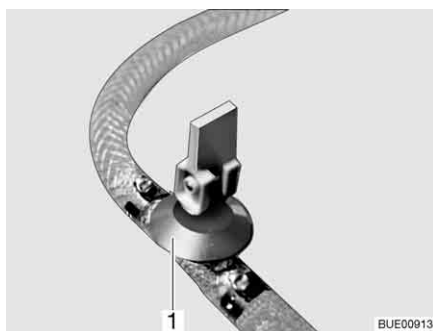
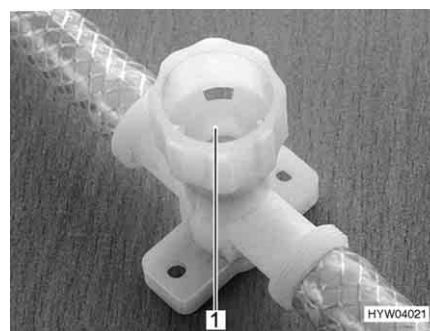

Fig. 201 Drain cock (with rocking lever)
Fig. 202 Drain cock (with twist cap)
- Close all drain cocks. To do this, position the drain cock's rocking lever (Fig. 201,1) horizontally or turn the drain cock's cap (Fig. 202,1) in a clockwise direction.